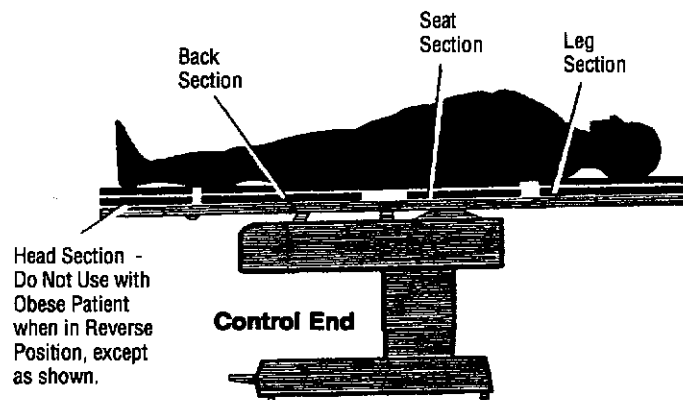

Figure 2-4. Obese Reverse Patient Orientation
- ⚠ Do not place obese patients (reversed) on a reversed head section (see Figure 2-4).
- Do not place obese patients (reversed) on a reversed head section (see Figure 2-4).
- Do not use reversed head section for obese patients (see Figure 2-4).
- Do not place obese patients (reversed) on the head/foot section (see Figure 2-4).